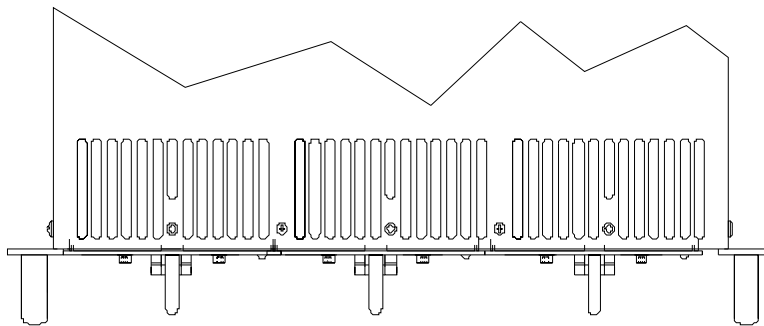

FIGURE 7. MODULE INSERTION, STEP F
F. The module is fully seated with all connectors engaged when the front panel is aligned flush with the front surface of the mounting ears or adjacent fully seated modules (Figures 7 and 8). Set the front panel retaining latches to the closed position to prevent inadvertent module removal. Only then should the front panel circuit breaker of the power supply module be turned on.